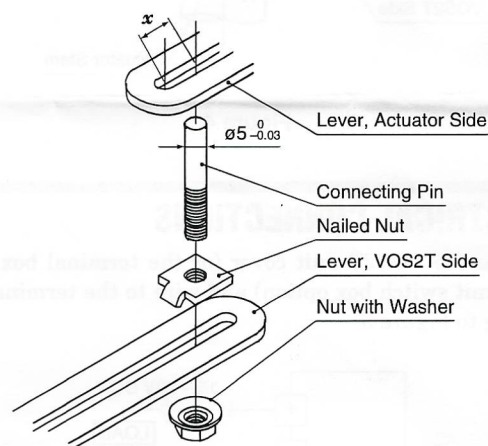

Figure 2
- The size 'x' indicated in Figure 2 must be longer than 10% of full-stroke of the actuator when it is in the middle position.
Attach the connecting pin to the VOS2T side lever utilizing the nailed nut and the nut as in Figure 2. The nail could be positioned in either side of the lever, however it is limited to one side at the extreme end of the lever hole.